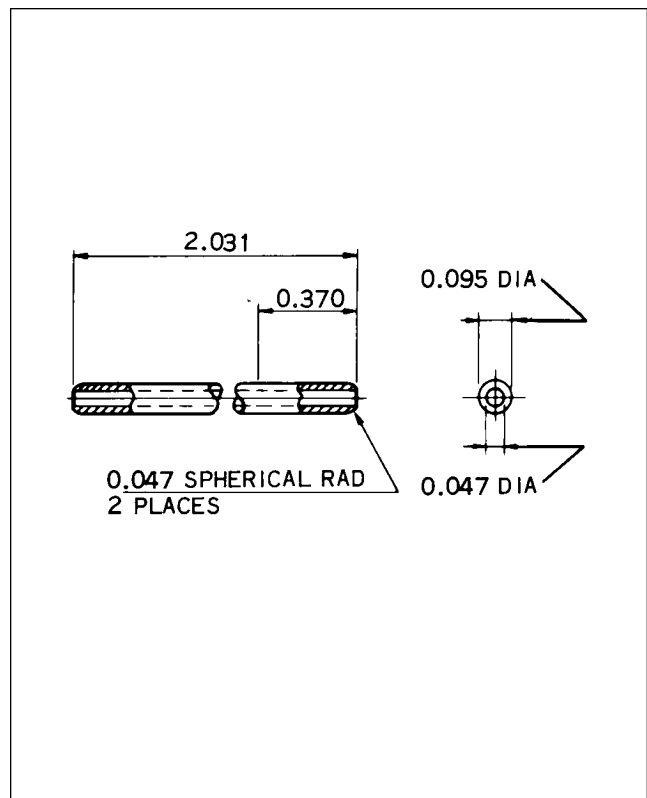
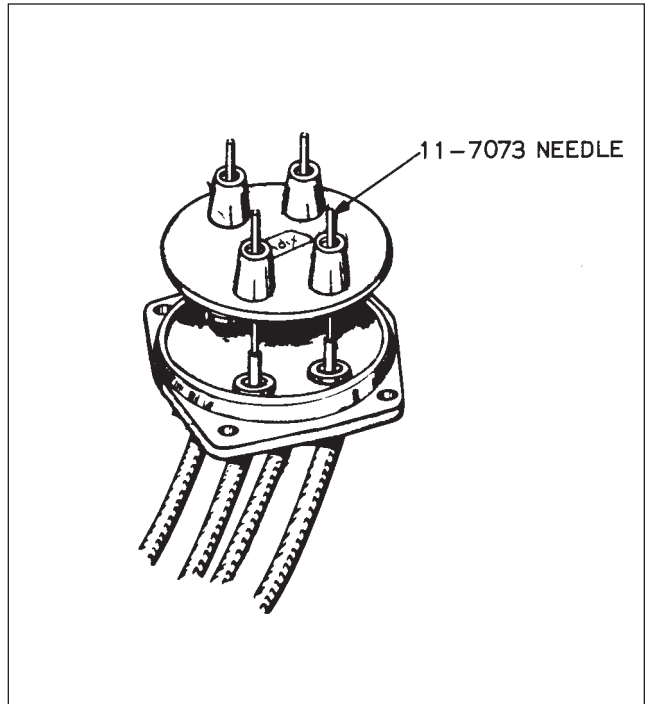

Figure 74-39. Needle
Figure 74-41. Installing Grommet Over Lead Assemblies
- M. Insert Scintilla 11-7073 Needle (Figure 74-39) through small hole of grommet and over stripped end of wire. (Refer to Figure 74-41.) Slide grommet down needle until it seats tightly against the tapered ferrule.